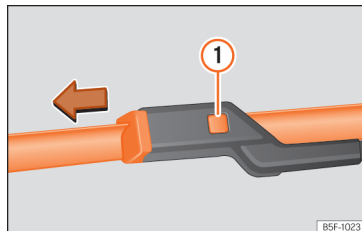

Fig. 41 Changing the windscreen wiper blades
- Press and hold release button »» Fig. 41 ① and pull gently on the wiper blade in the direction of the arrow.